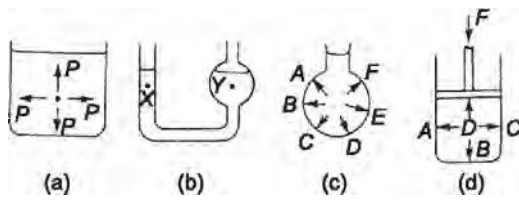

Figure 23.1
- (a) The pressure at a given depth in a fluid is equal in all directions; see Figure 23.1(a).
- (b) The pressure at a given depth in a fluid is independent of the shape of the container in which the fluid is held. In Figure 23.1(b), the pressure at X is the same as the pressure at Y.
- (c) Pressure acts at right angles to the surface containing the fluid. In Figure 23.1(c), the pressures at points A to F all act at right angles to the container.
- (d) When a pressure is applied to a fluid, this pressure is transmitted equally in all directions. In Figure 23.1(d), if the mass of the fluid is neglected, the pressures at points A to D are all the same.